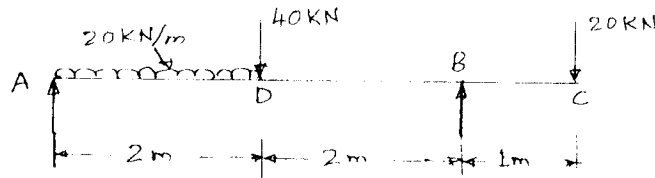

Fig Q5
- 5 Draw SFD and BMD for the overhang beam shown in Fig Q5. Indicate all significant values including point of contraflexure, if any. (16 Marks)